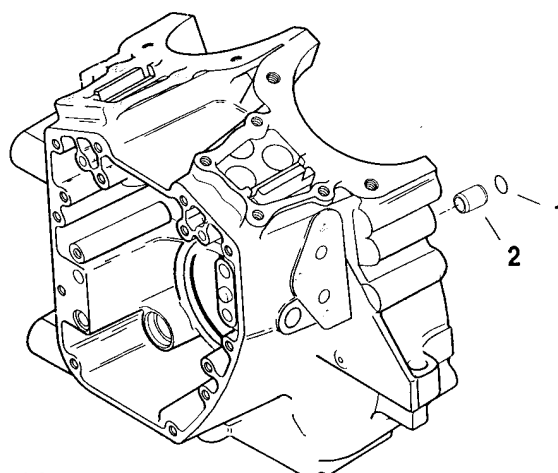

Figure 3-60. Right Crankcase Forward Dowel Pin (Rear Dowel Pin Not Shown)
5. See Figure 3-60. Remove O-rings (1) from two dowel pins (2) in split line face of right case half. Discard O-rings.